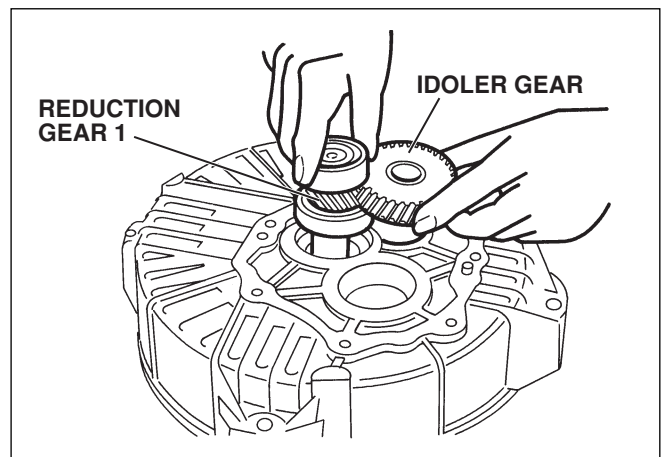

Fig. 10-8
- 5) Set the reduction gear 1 and the idler shaft in the adaptor, under the condition that their teeth are engaged in each other. (See Fig. 10-8.)